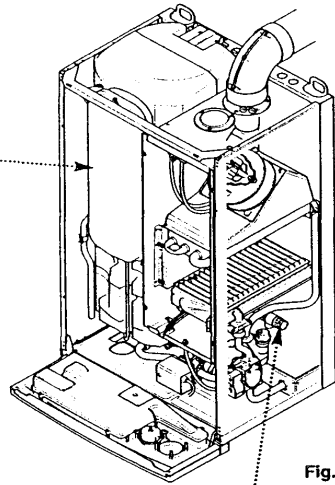

Fig. 7
**6.6 Expansion Vessel (Fig. 7) (Central Heating only)**